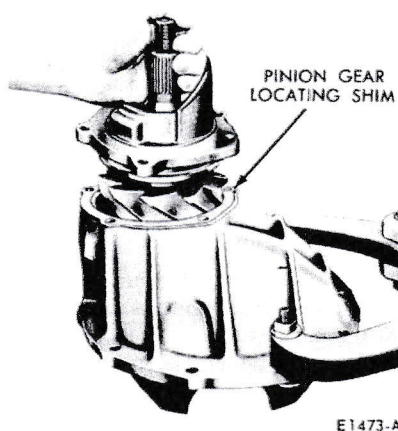

FIG. 48—Installing Pinion and Retainer
4. Place the proper shim on the carrier housing and install the pinion and retainer assembly being careful not to pinch the O-ring (Fig. 48).